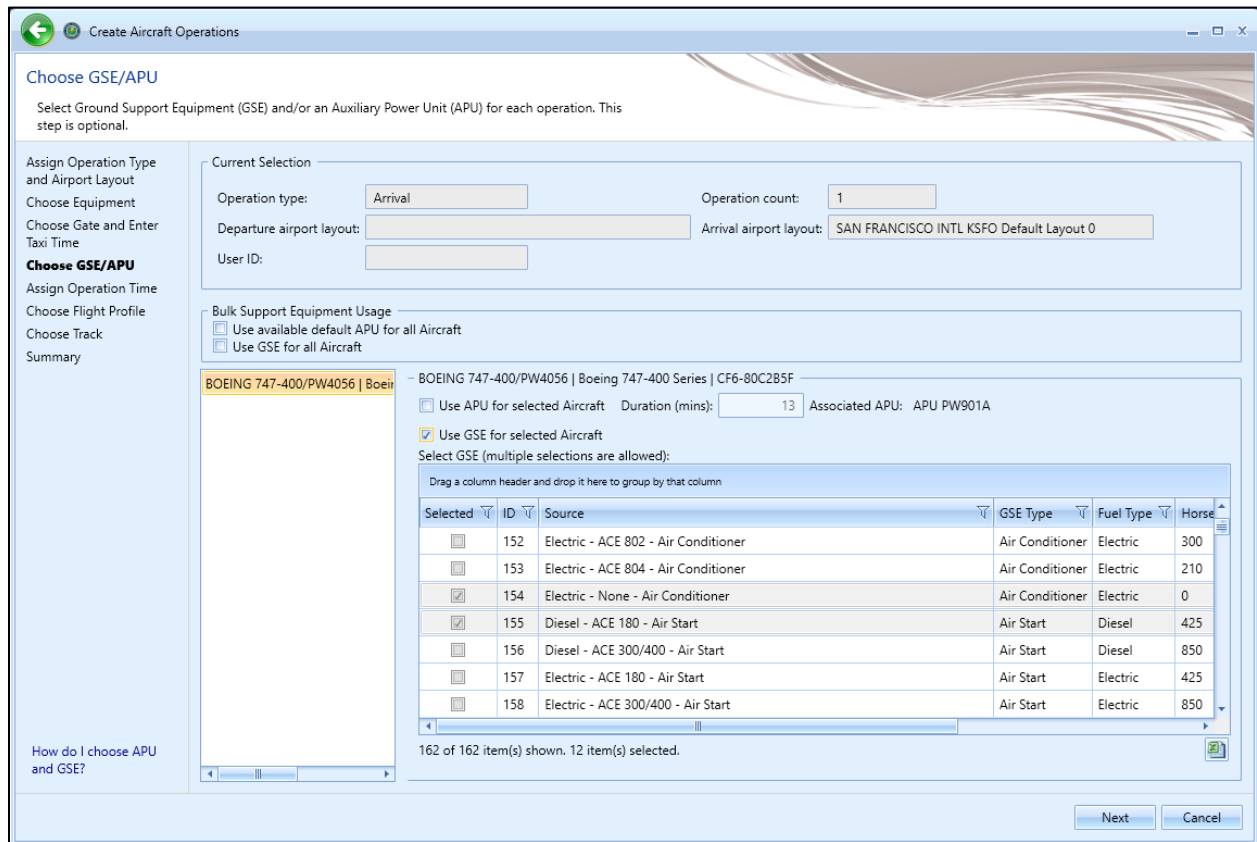
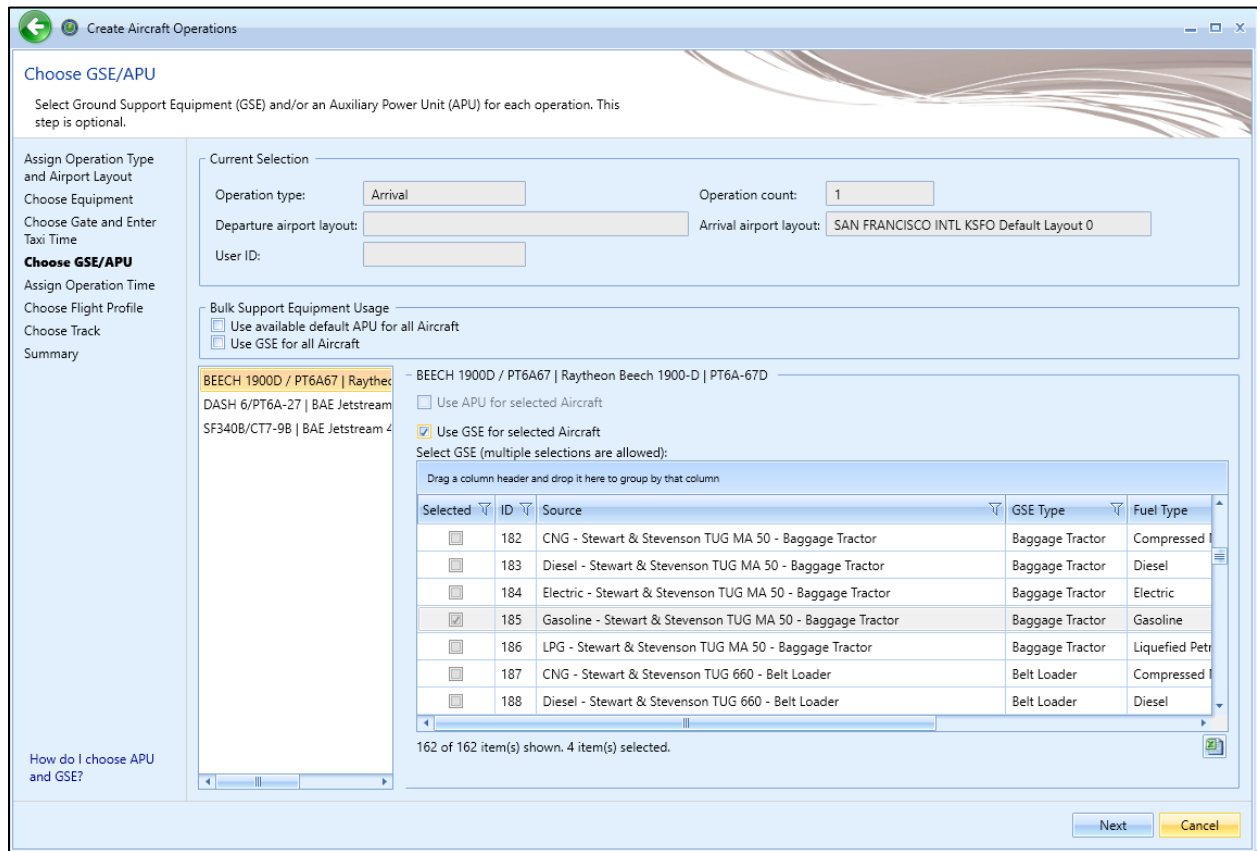

Figure 6-9 Create Aircraft Operation – Choose GSE/APU (Single)
Figure 6-10 Create Bulk Aircraft Operations – Choose GSE/APU (Bulk)
Select GSE and the auxiliary power unit (APU) for the aircraft operation in this step (Figure 6-9) if desired. The selections made in the previous steps are displayed in the *Current Selection* section.
For single aircraft operation, the details for the GSE selected in the previous step are displayed (Figure 6-9). For bulk aircraft operations, select the equipment from the equipment list to display the corresponding GSE details (Figure 6-10).
3. Select the *Use Ground Support Equipment (GSE)* checkbox if desired. If default GSEs exist for the selected aircraft, they will be pre-selected (Figure 6-9). Uncheck the box to deselect.
To manually select APUs or GSEs for each aircraft (Figure 6-10):